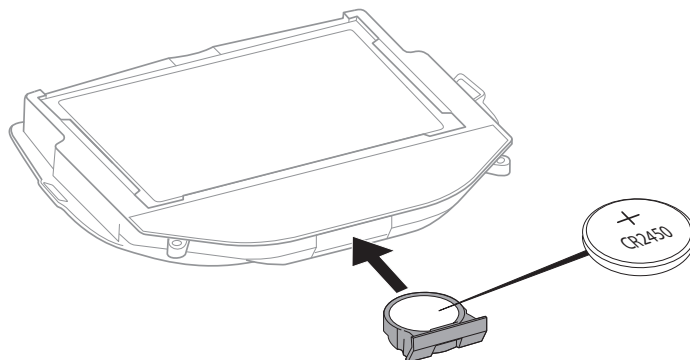

Fig. 21h
- e. To replace the battery, on the front of the ADF, locate the small cutout at the bottom. Pry the battery holder out with a fingernail or small screw driver. Replace with a new CR2450 disc style battery and reinsert the battery holder (Fig. 21h). All the indicator lights on the ADF should cycle through.